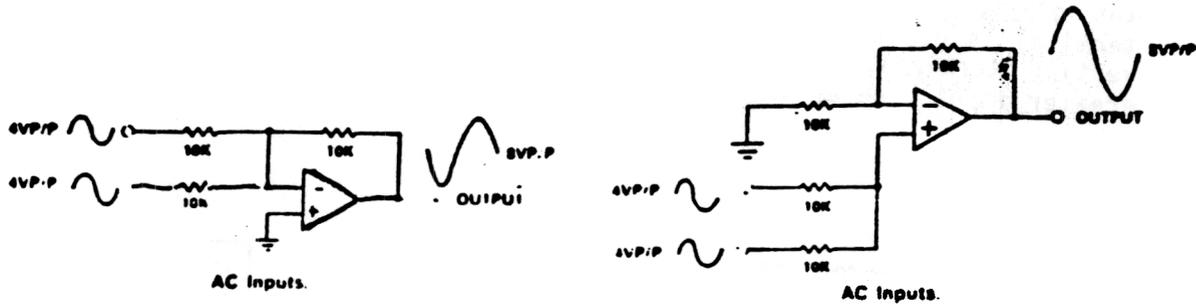

Figure 15B. Summing amplifiers
AC signals. AC signals applied to the inverting input terminal will provide an output AC signal that is 180 degrees out of phase from the input. AC signals applied to the non-inverting input terminal will provide an output AC signal that is in phase with the input. Usually all the input AC signals to a summing amplifier are the same phase, either 0 degrees or 180 degrees. Refer to Figures 15B(3) and (4) for examples.